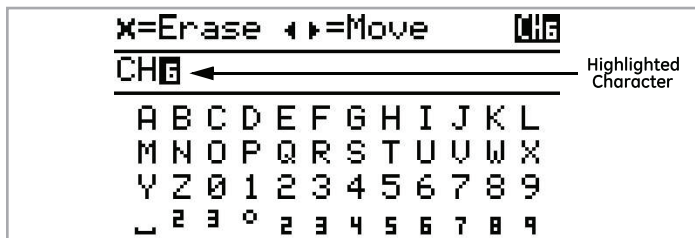

Figure 15: Text Edit
- Pressing the Down arrow will move the highlight to the Text Edit section (see Figure 15 below):